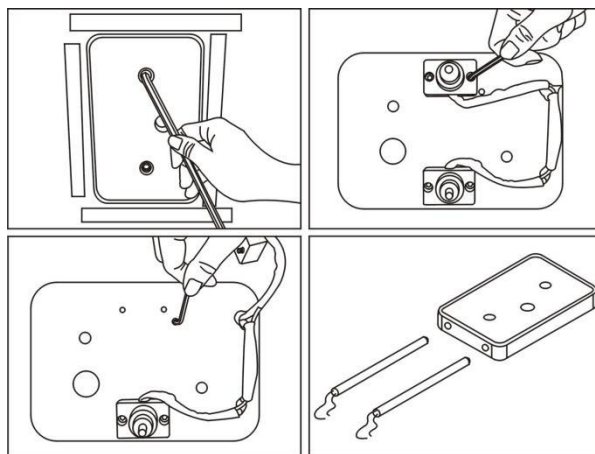

Figure 10 Disassembly of heating plate
8.3.3 Gently remove the heating system. There are two terminals on the back of the heating system that fix the heating element. Remove the wires of the heating element to extract the damaged heating element from the heating plate. (Figure 10)